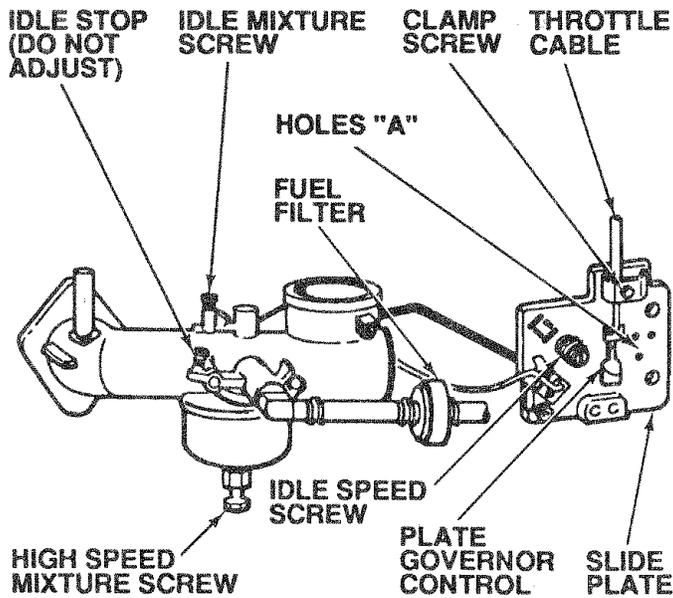

FIGURE 20
- Loosen clamp screw (Fig. 20). Adjust throttle cable until holes "A" are aligned in governor control plate and side plate.
- b. Loosen clamp screw (Fig. 20). Adjust throttle cable until holes "A" are aligned in governor control plate and side plate.
- a. With engine off turn high speed mixture screw clockwise closing finger tight ONLY, and turn counterclockwise 1-1/2 turns (Fig. 20).
- b. Turn idle mixture screw clockwise closing finger tight only, and turn counterclockwise 1-1/2 turns (Fig. 20).
- a. With engine cool, remove filter and plug fuel line sections that were removed from both ends of fuel filter (Fig. 20).